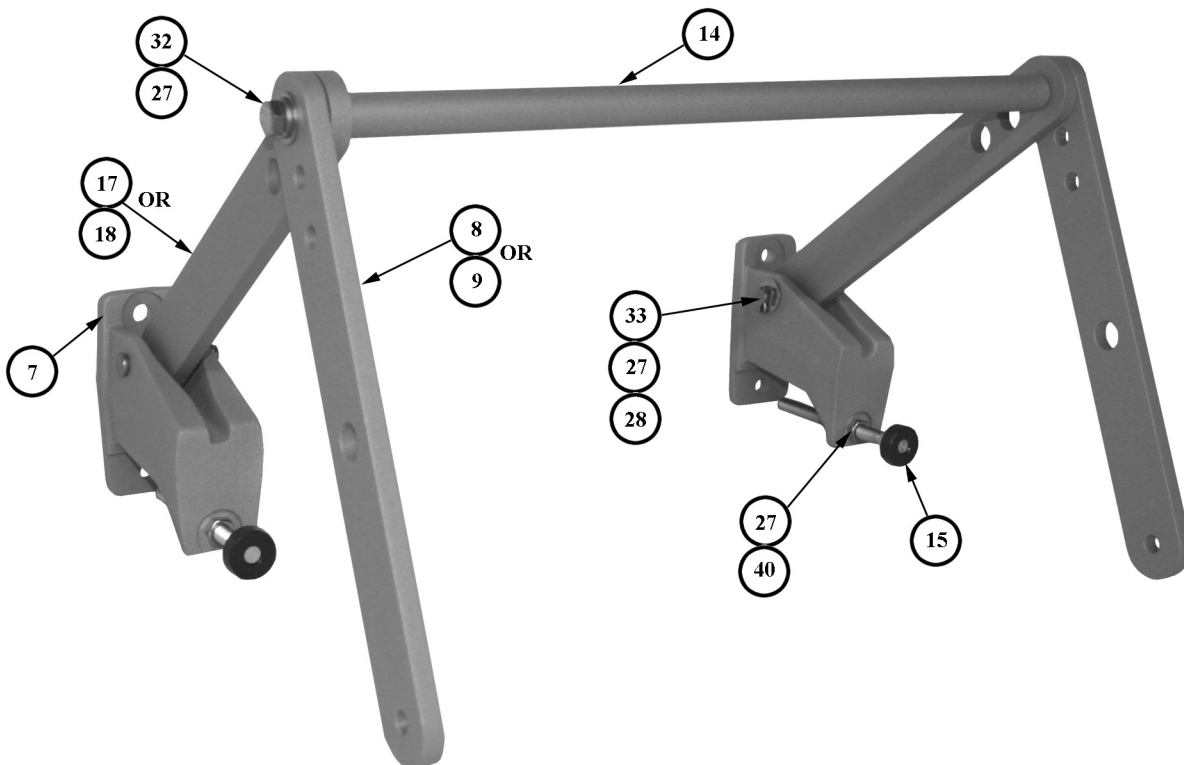

**FIGURE 2: HANDLE ASSEMBLY
7. Find proper placement on the truck for the Handle Assembly (Figure 2, Page 5) to ensure support for the Ladder Rung of the Folding Rail in the stored position. Drill holes and attach Handle Assembly to truck.